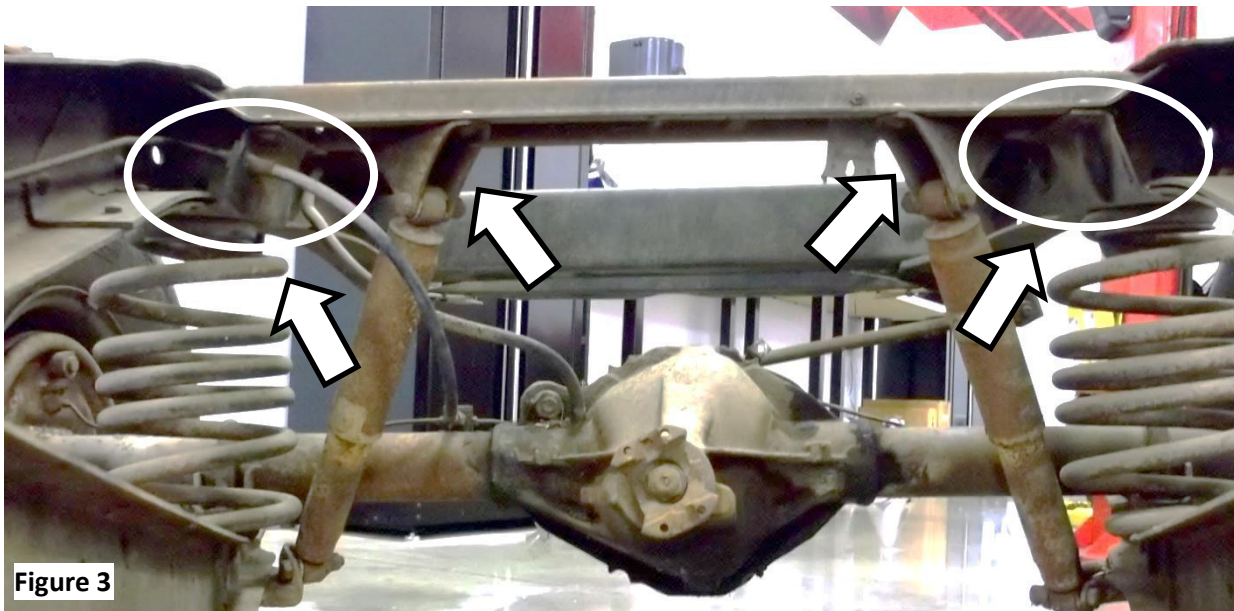

Figure 3
10. Remove the six (6) rivets retaining the each truck arm mounting bracket and remove the brackets from the cross member.
11. Remove the rivets for the shock cross member brace and factory upper spring plate and remove them from the chassis. Do not remove the entire cross member. See **Figure 3**. The factory upper shock mounts can be removed at this time as well as they will not be reused. **Note:** 1970 and earlier trucks will require the brake line to be removed from this support and relocated to the QA1 supplied bracket.